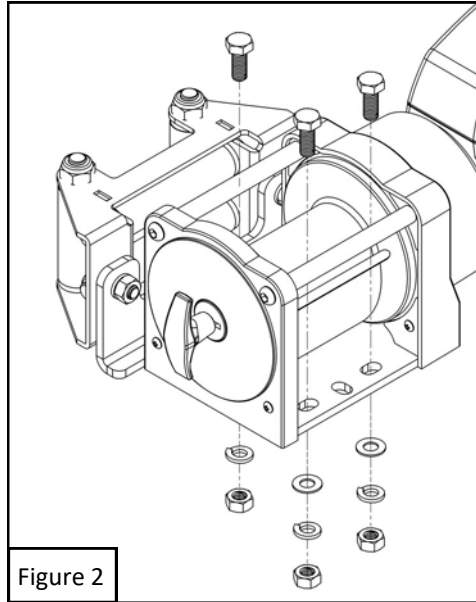

Figure 2
5. Mount the winch using the M8 zinc plated hardware (items 9-12). See **Figures 2 - 4**.